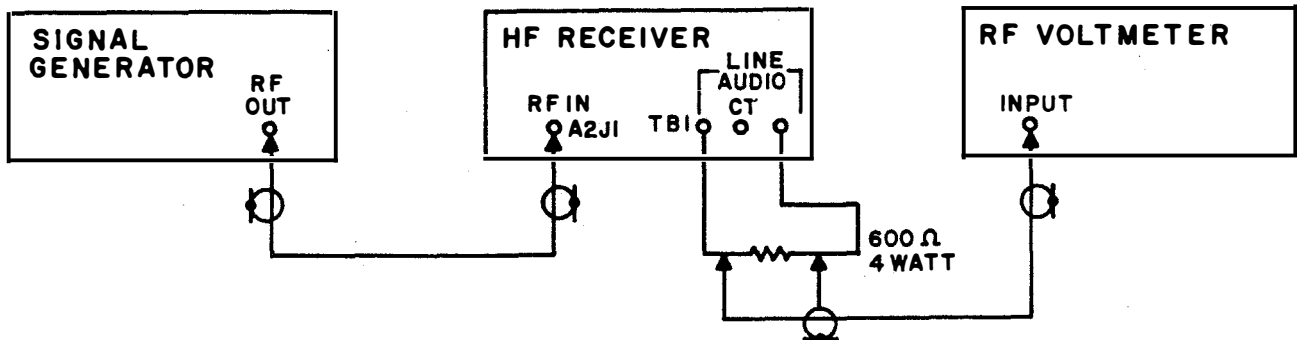

Figure 4-3. Manual/Automatic Gain Control Performance, Test Setup
(1) Test equipment required. This test will utilize a signal generator, voltmeter, and a 600  $\Omega$  resistor. Specifics are set forth in table 6-1.
(2) Technician rating required. An Electronic Technician Second Class or above should perform this test.
(3) Set up data. The test equipment should be connected to the receiver as shown in figure 4-3.